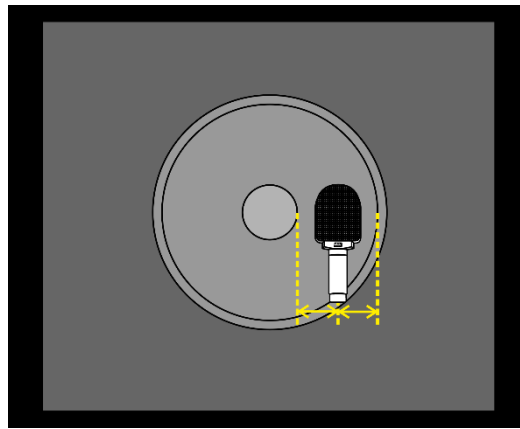

Fig. 02
- 04) Position the microphone exactly in the middle between the edge of the dust cap and the edge of the speaker as shown on Fig. 02, page 6.
- Position the microphone exactly in the middle between the edge of the dust cap and the edge of the speaker as shown on Fig. 02, page 6. Once positioned use your ear to find the optimum position. Moving the microphone in the direction of the dust cap will increase the brilliance of the signal. Moving the microphone towards the edge of the speaker will decrease the brilliance, and the sound will become warmer.